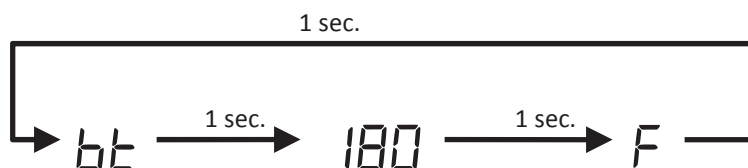

FIGURE 11.3: TYPICAL OPERATING MODE DISPLAY (BOILER TEMP SHOWN)
- 2) Operating Mode - Provides additional information about the current status of the boiler. Operating mode is entered by pressing the **I** button shown in Figure 11.0. When this button is first pressed in Status mode, the display will alternately display  $b\text{E}$  and the current boiler water temperature as shown in Figure 11.3. Pressing the **I** button again will display the next line item shown in Table 11.2. In the same manner it is possible to advance through all of the “parameters” shown in Table 11.2. To return to Status mode, press **I** repeatedly until  $5\text{E}9$  once again appears on the display. Alternatively, the control will return to Status mode if no key is touched for 30 minutes.
In operating mode, holding either the  $\uparrow$  or  $\downarrow$  button while viewing a given parameter will keep the display on the actual reading. For example, pressing  $\uparrow$  while reading boiler temperature as shown in Figure 11.3 will keep the display on 180 for as long as this button is held. This makes it easier to view readings “live” if they are changing rapidly